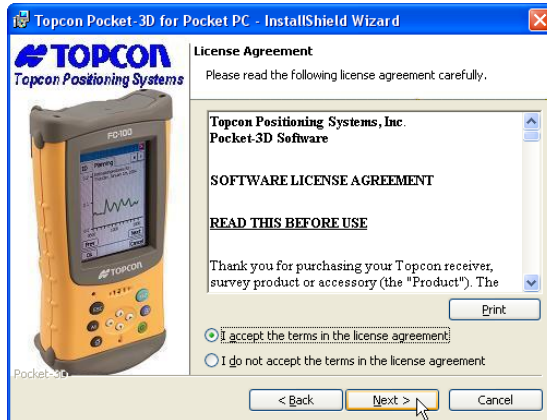

Figure 1-3. Review and Accept License Agreement
- Review the **License Agreement**. If you accept the terms, click the **"I accept..."** radio button, then click **Next** (Figure 1-3). Clicking "I do not accept..." will terminate the installation.